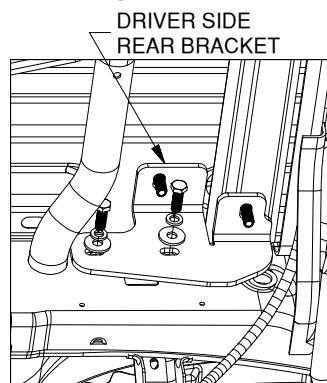

Figure D6: View looking up at driver side frame.
- 7. Install the driver side rear bracket.** Locate the driver side rear bracket, two M12 x 35mm hex head bolts (shorter), two 1/2" split lock washers, and two 1/2" flat washers. Position the bracket under the installation location of the two driver side carriage bolts. Maneuver the bracket so that the 1/2" carriage bolts passes through the slots at the top of the bracket. Using 1/2" lock washers and 1/2" flat washers, thread the shorter (35mm) M12 hex head bolts into the frame through the holes in the bracket, see Figure D6.